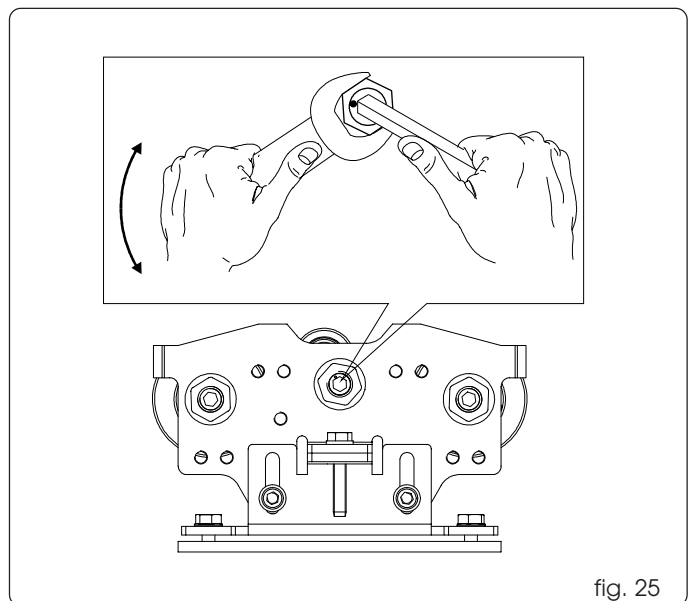

fig. 25
- Keep the adjustment screw firm with an Allen wrench and loosen the locknut (fig. 25).